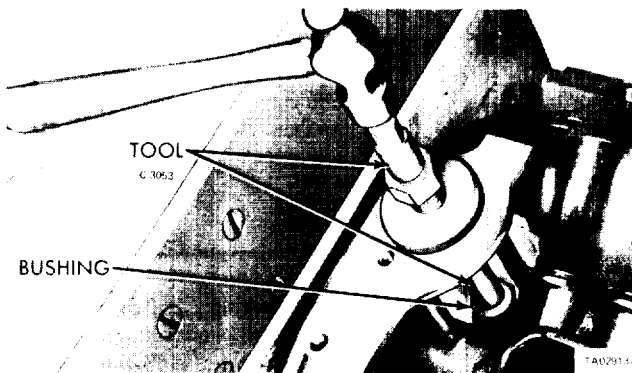

Figure 11-31. Installing Distributor Drive Shaft Bushing.
(1) Slide the bushing over the burnishing end of tool C-3053 and insert the tool and bushing into the bore.
(2) Drive the bushing and tool into position using a hammer (figure 11-31).